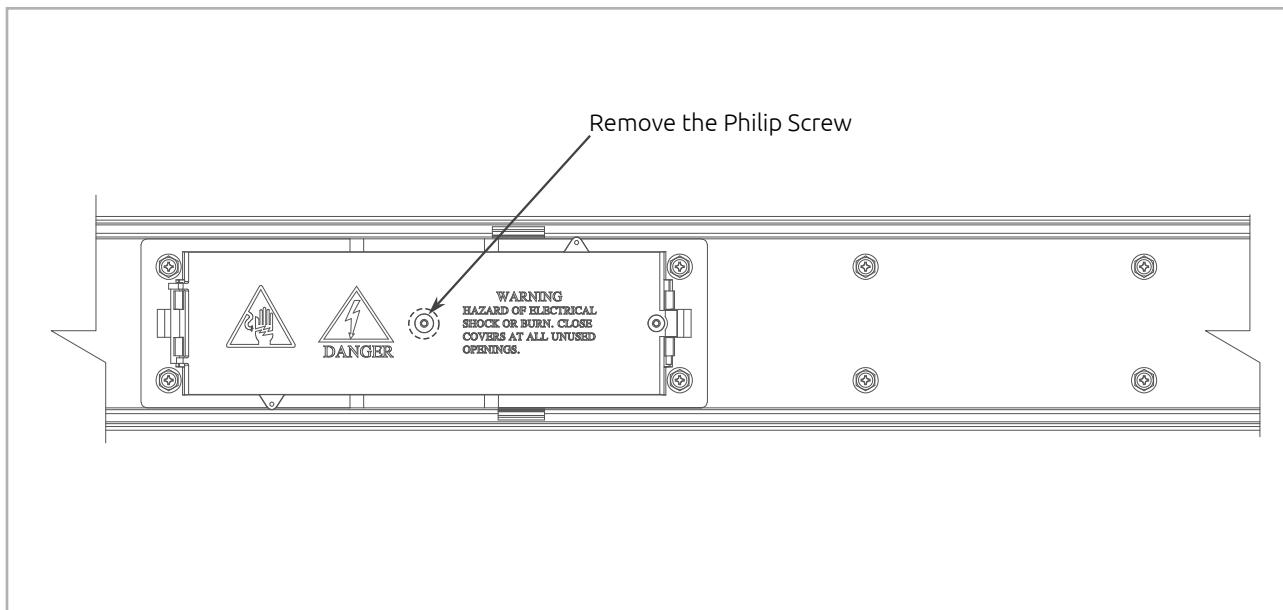

Figure 17.1
2. Open the plug In outlet and remove the cover by removing the Philip screw. ( See Figure 17.1)